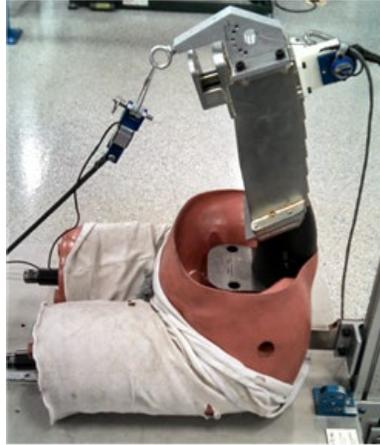

Figure 5 - Lumbar flexion test equipment
- j. Test fixture: The test fixture consists of a standard torso flexion machine used for certifying the torso assemblies of other Hybrid III family dummies. An example of such device is seen in Figure 5.